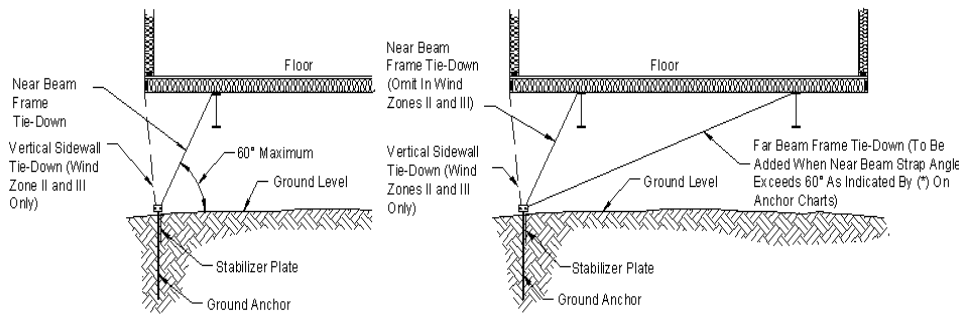

Figure 72. Lateral tie-down configurations
* Indicates a configuration that will require the frame strap connected to the far beam (see Figure 72).
There are two primary tie-down configurations: the near beam and the far beam methods. If the anchor spacing selected in the appropriate anchor table (**Table 22, Table 23 or Table 24**) has an asterisk (*) then use the far beam method. Otherwise, use the near beam method (**Figure 72**). Each method varies by wind zone as described below.